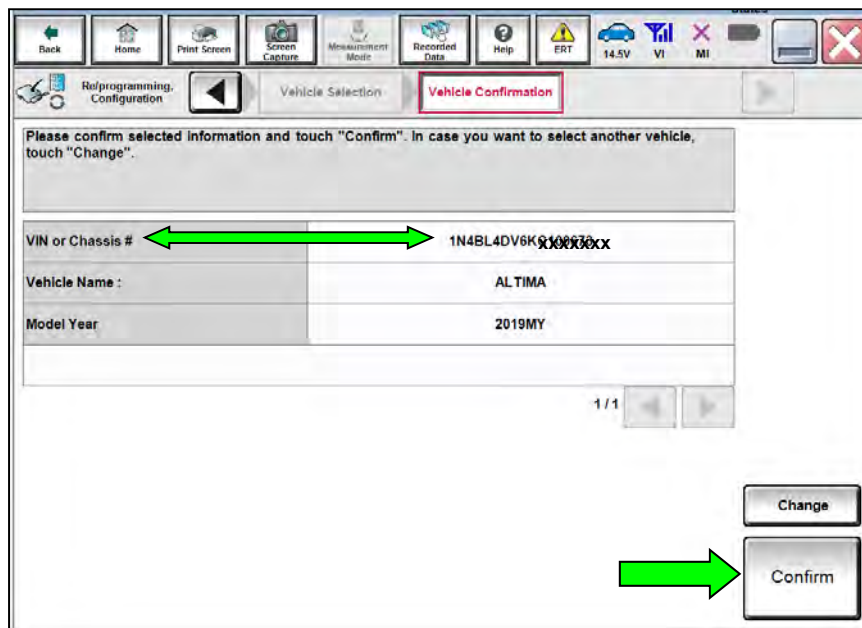

Figure 4
10. If the screen in Figure 4 does not display, select the **Automatic Selection (VIN)** tab.